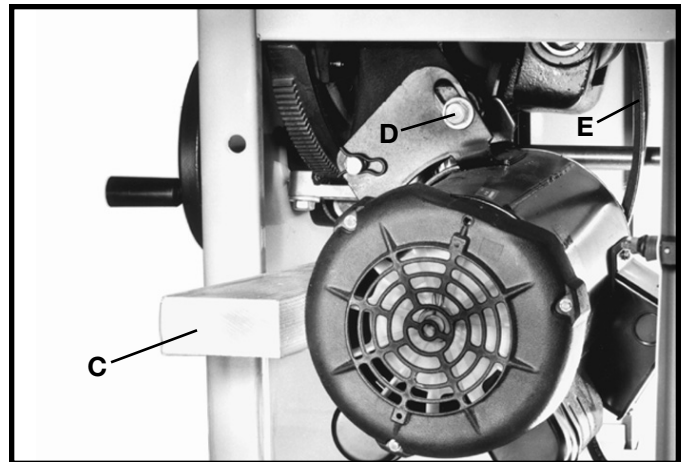
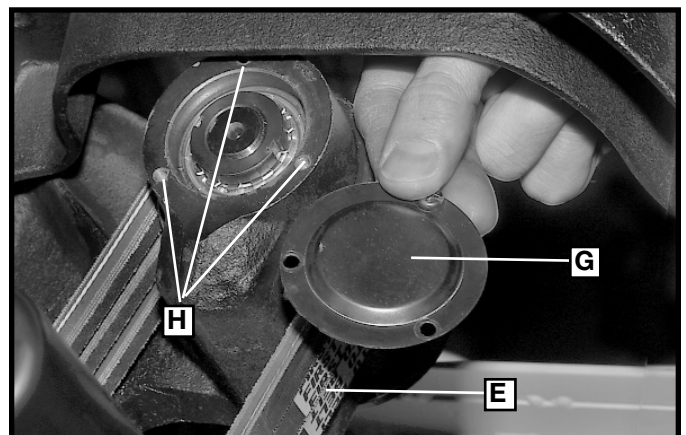
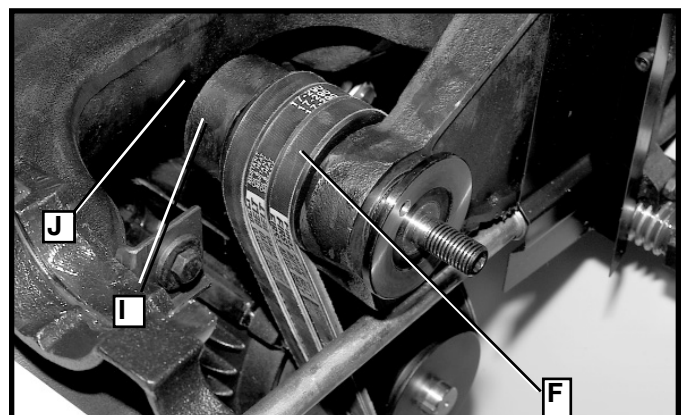

Fig. 59
Fig. 59A
Fig. 60
2. Put blade at 90 degrees. Place a block of wood (C) Fig. 59, in between the motor and saw cabinet as shown and lower the arbor until the motor contacts the wood.
4. Loosen two bolts on the motor mounting plate, one of which is shown at (D) Fig. 59 and continue to lower the saw arbor until all tension is removed from the three belts (E). Tighten bolt (D).
5. Raise the saw arbor slightly to remove block of wood (C).
6. Remove the arbor bracket cover (G) Fig 59A. Three screws hold the cover in place at (H). To get to the top screw, tilt and then raise the arbor. Return arbor to previous position once cover is off.
7. Remove the belts (E) Fig. 59A, one at a time from the motor pulley and then the arbor pulley (F) Fig. 60. It will be necessary to twist the belt 90 degrees so its thinnest profile slides through the gap between the arbor bracket (I) Fig. 60 and the cast iron arm casting (J) Fig. 60.
8. Assemble the three new belts, one at a time in the grooves of the arbor pulley (F), and onto the motor pulley.
9. Replace the arbor bracket cover (G) Fig. 59A.
10. When the new belts are assembled, loosen screw (D) Fig. 59 while holding the motor up. Carefully lower the motor onto the belts. Tighten screw (D).
11. Check belt tension. Correct belt tension is when there is approximately 1/4" deflection in the center span of the pulleys, using light finger pressure. If more tension is needed, push down on the motor. Then tighten screw (D). Once you have proper tension, be sure to tighten the screw (not shown) on the opposite side of the motor mounting plate.